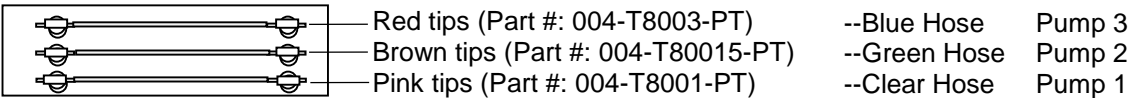

Figure 17
- A. Locate the three ¼” hoses colored clear, blue, and green. The pumps will need to be connected to specific tips (figure 17 and 18) so the pump numbers are as follows: Pump 1 is closest to the filter bowl, pump 2 is in the middle, and pump 3 is the outside pump.